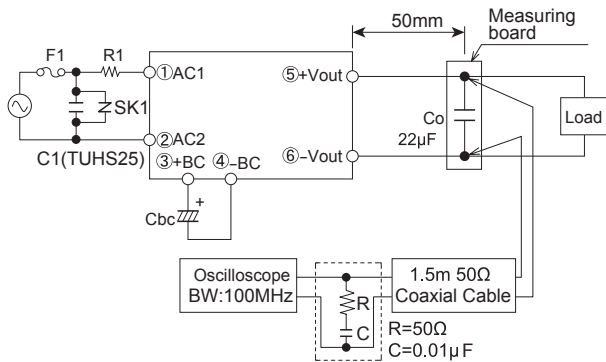

Fig.2.13 Method of Measuring Output Ripple and Ripple noise
■The specified ripple and ripple noise are measured by the method introduced in Fig.2.13.